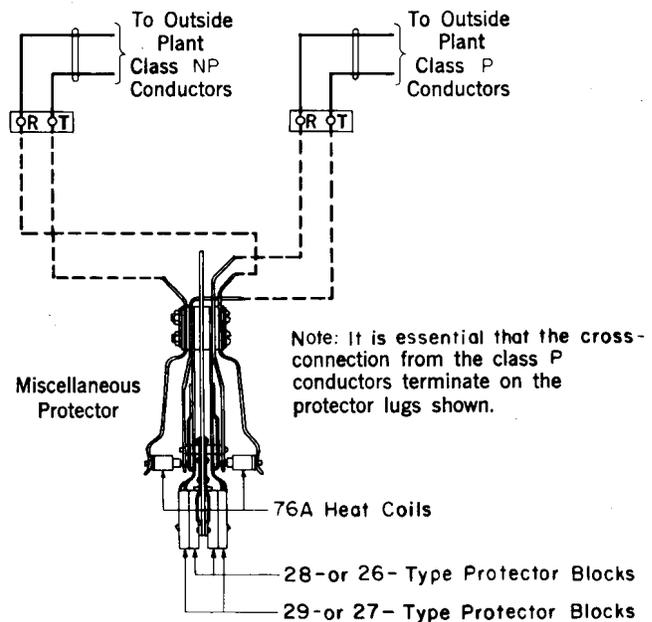

Fig. 13—Class NP to Class P Conductors—Looped
6.22 A circuit composed of class P and class NP conductors looping through an office shall be connected and protection provided as shown in Fig. 13.